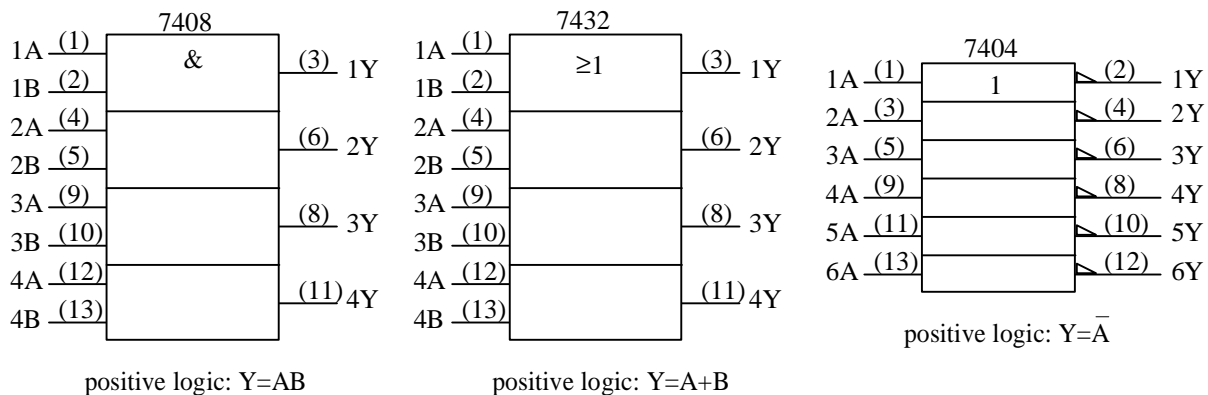
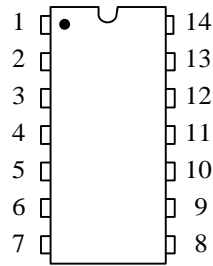

Figure 1: Standard Logic Symbols
Figure 2: Identifying Pin 1
In a digital system there are only two stable states, logic 1 and 0 (or HIGH and LOW, TRUE and FALSE, etc.) In a popular logic family called TTL (Transistor-Transistor Logic), the low logic level is assigned to 0V and the high logic level is assigned to 5V (see Section 3.10 of Wakerly's *Digital Design, Principles and Practices* for more information). Each logic gate is actually implemented in part of an integrated circuit (IC), with each gate made using several transistors. For the most part we do not need to concern ourselves with the actual circuitry inside each gate, only the interconnections between individual gates. Usually each IC package contains several individual gates. The 7408 chip implements 4 two input AND gates and is commonly referred to as a "Quad two input AND" chip. Similarly the 7432 chip is a "Quad 2 input OR" chip while the 7404 chip is a "Hex Inverter" since it contains 6 inverters. The IEEE standard logic symbols for each of these devices is shown in Figure 1. The IEEE symbols are better suited to represent ICs than the distinctive symbols since their rectangular outlines can easily fit together.
Each of the chips in Figure 1 are available in 14 pin Dual-In-Line packages or DIPs. The pin numbers assigned to each logic signal are shown inside brackets in the figure. The pins are numbered as shown in Figure 2. Pin 1 is usually identified as the pin to the left of an indentation or cutout in one end of the chip that is visible when the chip is viewed from the top. Occasionally, it is also identified by a printed or indented dot placed just next to it.